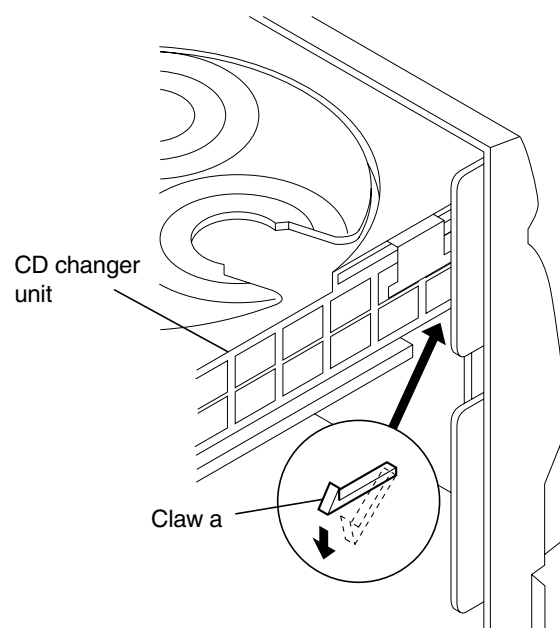

Fig.10
5. Push down and disengage the two claws "a" holding the CD changer unit at the bottom of its front panel and then remove the CD changer unit (Fig. 10).